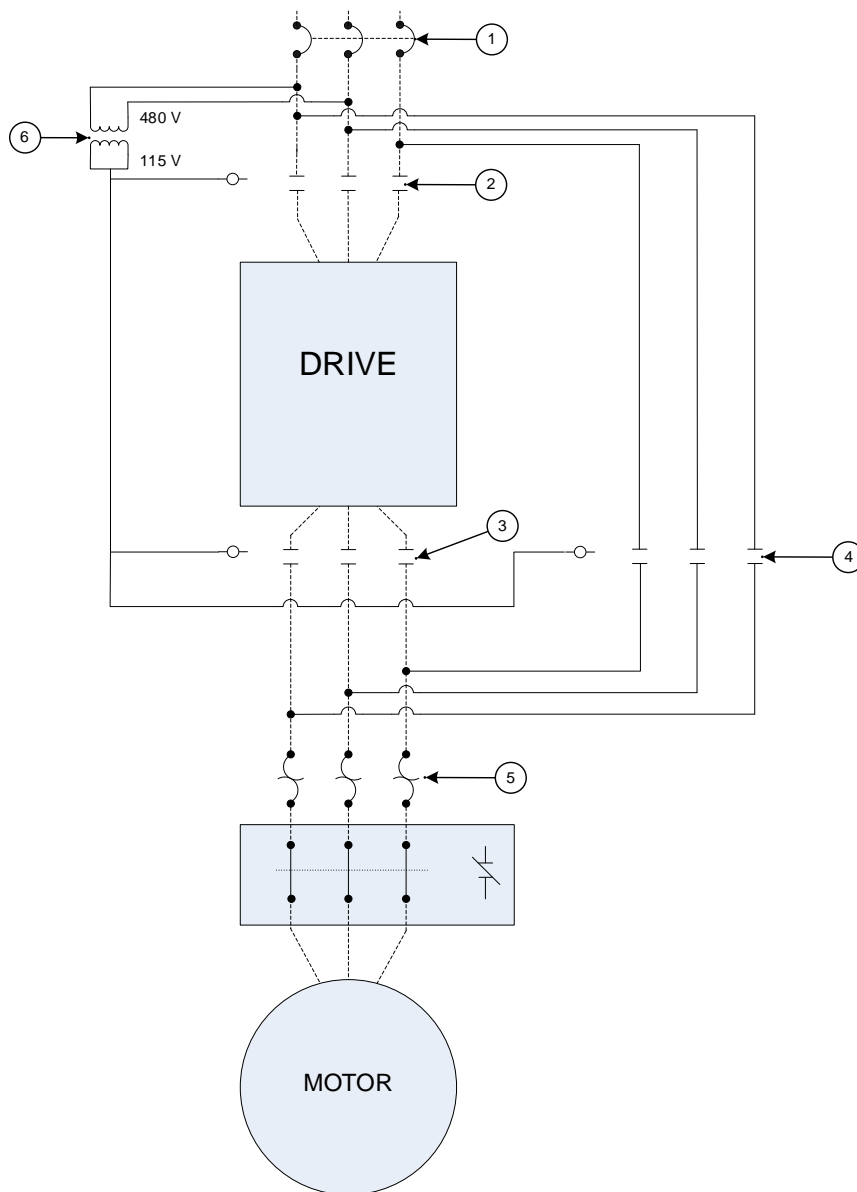
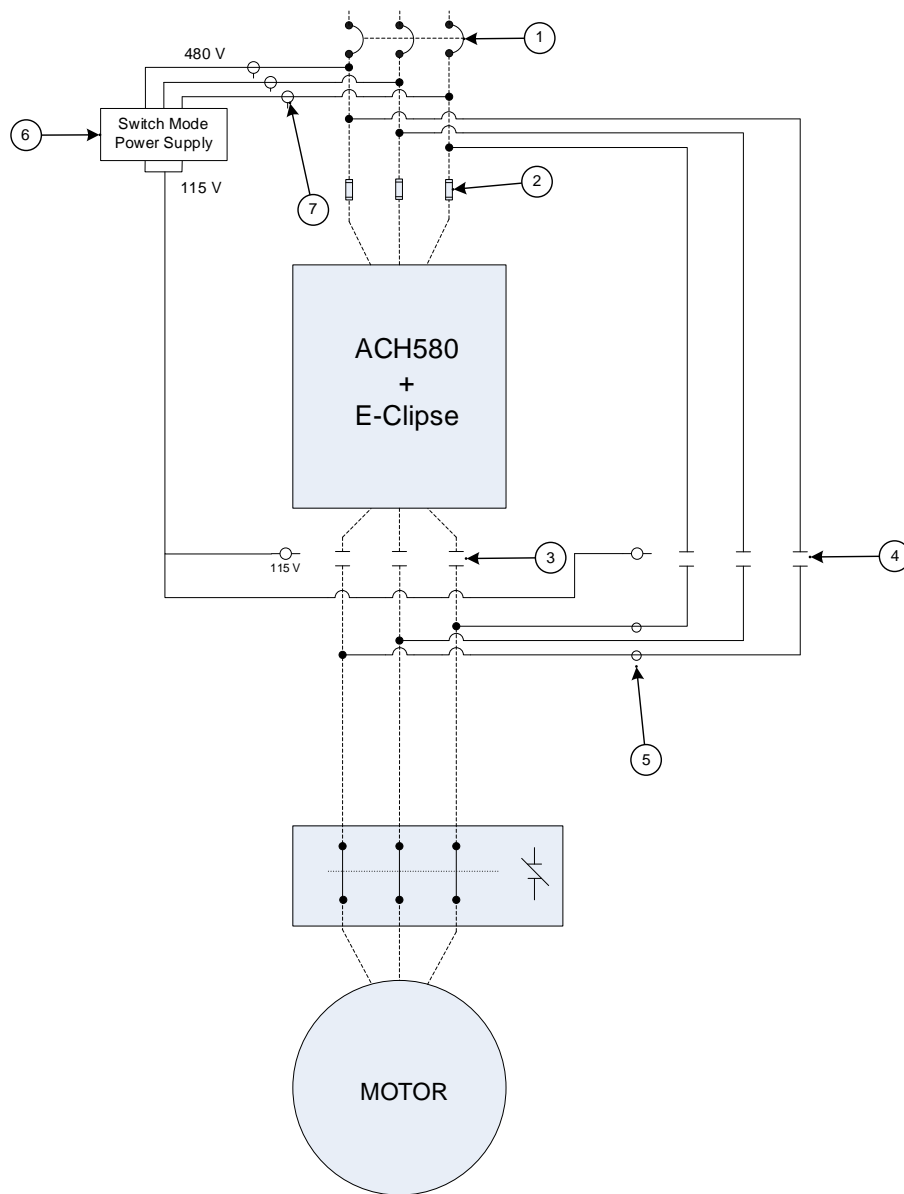

Figure 1 Classic bypass
Figure 2 E-Clipse bypass
Since the introduction of variable frequency drives, some form of auxiliary device has been available to disconnect, or “bypass”, the drive and connect the motor across the line in case of drive failure. Early forms (Figure 1) of this bypass device were strictly electro-mechanical, providing interlocking contactors to isolate the drive and line-connect the motor. Over time, the need for a more sophisticated approach to this bypass concept became apparent, and ABB introduced its E-Clipse bypass (Figure 2) product to service this demand.
Rather than a simple control power transformer found in a classic bypass system (Figure 1, item 6), the E-Clipse system incorporates an MOV-protected, advanced switch mode power supply (Figure 2, item 6). This power supply has significant advantages over a control power transfer by managing input power disturbances without passing these on to the contactors, such as +30%, -35% voltage fluctuation tolerances and single-phase conditions. Under these transient line conditions, high or low, as well as phase loss, and very brief generator transfers, contactor control can be maintained, allowing trip-free operation of the system, and minimizing contactor cycling (chatter). A robust power supply design is critical for reliable drive-mode operation, as the output contactor must be kept closed while the drive is controlling the motor.
Figure 1 (item 2) compared to Figure 2 shows that modern HVACR bypasses have one less contactor. Originally with the classic 3-contactor design, the industry used that contactor to provide isolation on the input side of the drive. That isolation would aid situations when a shorted internal drive component (i.e. diode, capacitor, IGBT) would continuously trip the circuit breaker (Figure 1, item 1). Opening the input contactor (assuming it had not become welded shut) would prevent that shorted component from tripping the breaker, thus allowing bypass operation. With changes to UL508C and UL61800-5-1 along with their safety related requirements, fuses installed in front of drives became the new standard. The fuses eliminated the need for the input contactor, as the fuse would open and provide the necessary isolation if there had been a shorted internal drive component.